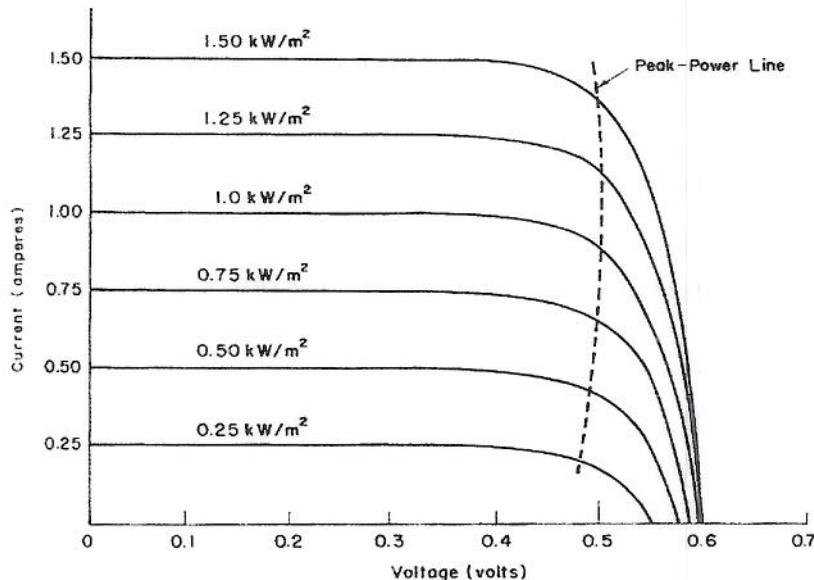

Figure 2, Output characteristic of a PV cell
- a) The output characteristic for a photovoltaic cell is shown in figure 2. Cells of this type are to be built into an array composed of a number of cells in series to form strings with a number of stings placed in parallel,